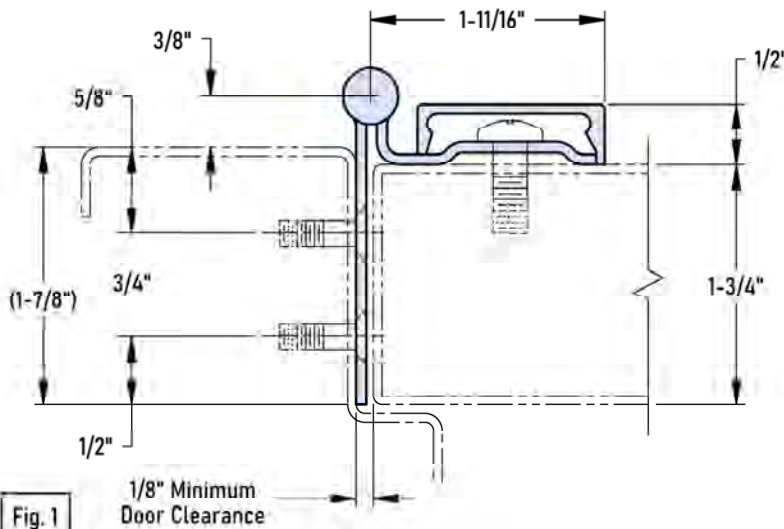

Fig. 1
- A. Place hinge on frame. Position top of hinge $1/8"$ maximum below. Allow $1/16"$ between stop and edge of hinge (Fig. 1).